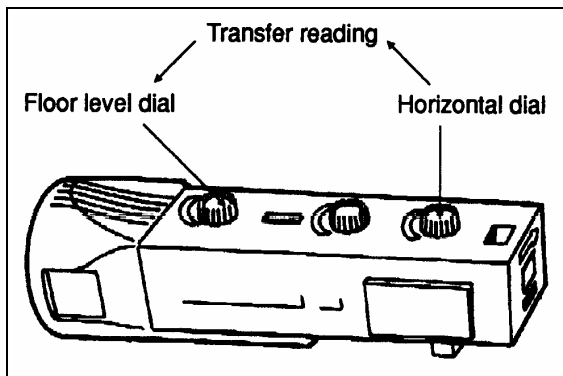

FIGURE 55: HEADLIGHT ALIGNER
6. Set according to floor slope. Transfer positive (+) or negative (-) reading of horizontal dial to the floor level offset dial to offset floor slope on each aligner (Fig. 55). Push on the floor level offset dial to register reading.